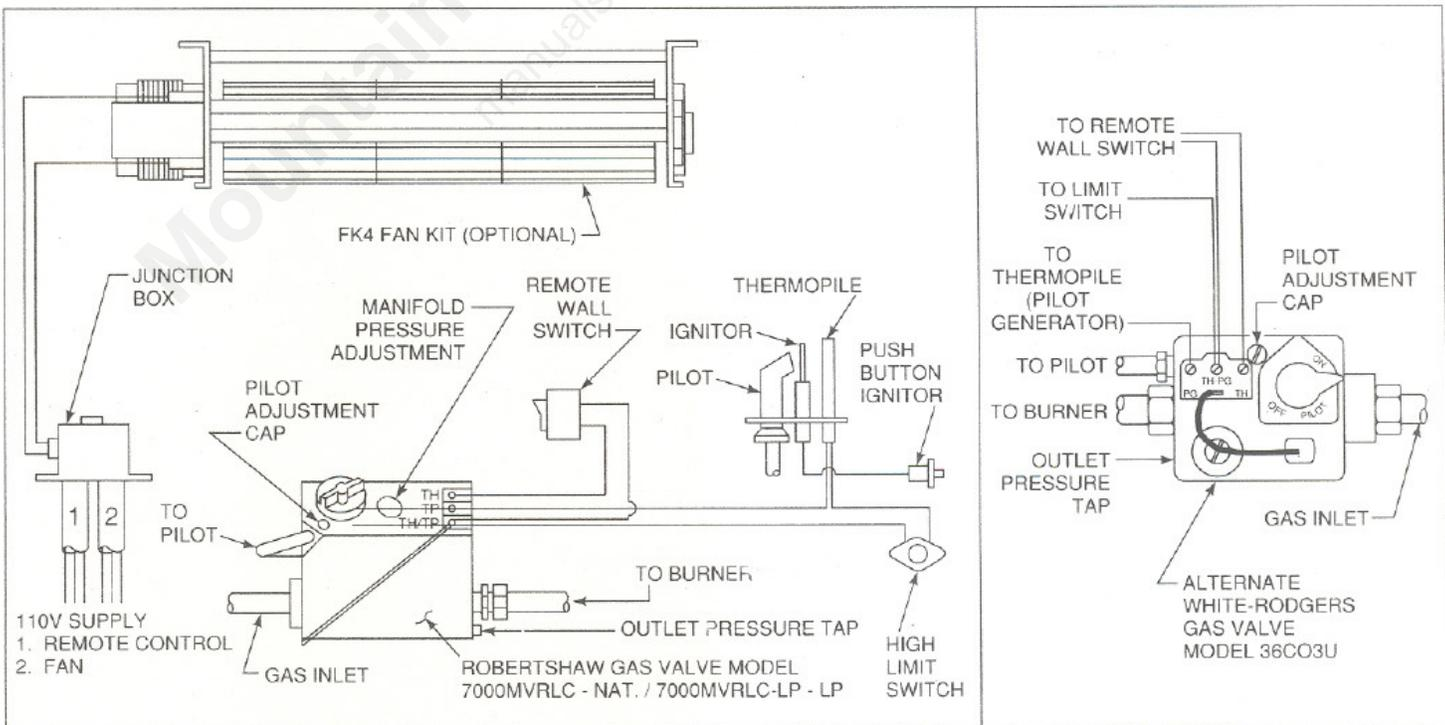

Figure 9B
Remote wall switch hook-up should be installed in a convenient location. Follow Figure 9B for wiring diagram. If an optional FK4 Fan Kit or RC4 Remote Control Kit are to be used, 110 V wiring should be done at this time. (Note: 110V power is not required for ignition.) The appliance must be electrically wired and grounded in accordance with local codes or, in the absence of local codes, with National Electric Code ANSI/NFPA 70-latest edition. Wiring diagrams are provided with these accessories and in Figure 9B. This appliance is not intended for use with a thermostat.
- Remove the pilot adjustment cap. See Figure 9B.